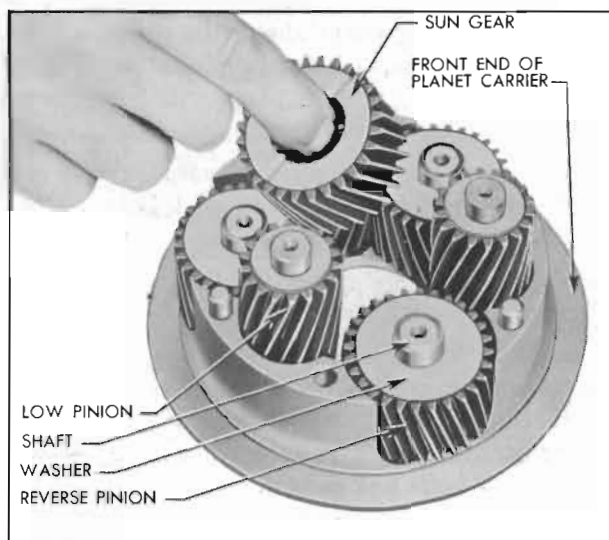

Figure 5-91—Removal of Sun Gear and Planet Pinions
3. Remove the sun gear rear thrust washer, which may be either on sun gear or stuck in rear end of carrier. Remove reverse sun gear. See Figure 5-91.
5. Remove the 3 low planet pinion assemblies, each consisting of a pinion, shaft, and bearing rollers retained at each end of pinion by steel thrust washers. See Figure 5-91. A retaining ring snapped into a groove in shaft will hold the lower thrust washer in place as shaft is tapped out of carrier. The shaft is prevented from turning in carrier by a  $\frac{3}{32}$ " steel ball imbedded in end of shaft. Do not lose the steel ball.
each shaft to prevent turning in carrier, then install planet pinion assemblies in front end of planet carrier, using care to engage the steel balls in the notches in carrier. See Figure 5-91.